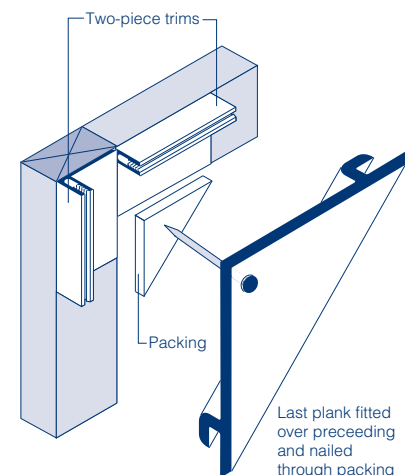

Fig.36 Fitting the finishing plank
- The finishing piece, which will occupy the diagonally opposite corner, should be cut to size and fitted onto the tongue of the penultimate plank, then nailed using a packing piece if necessary (Figure 36).